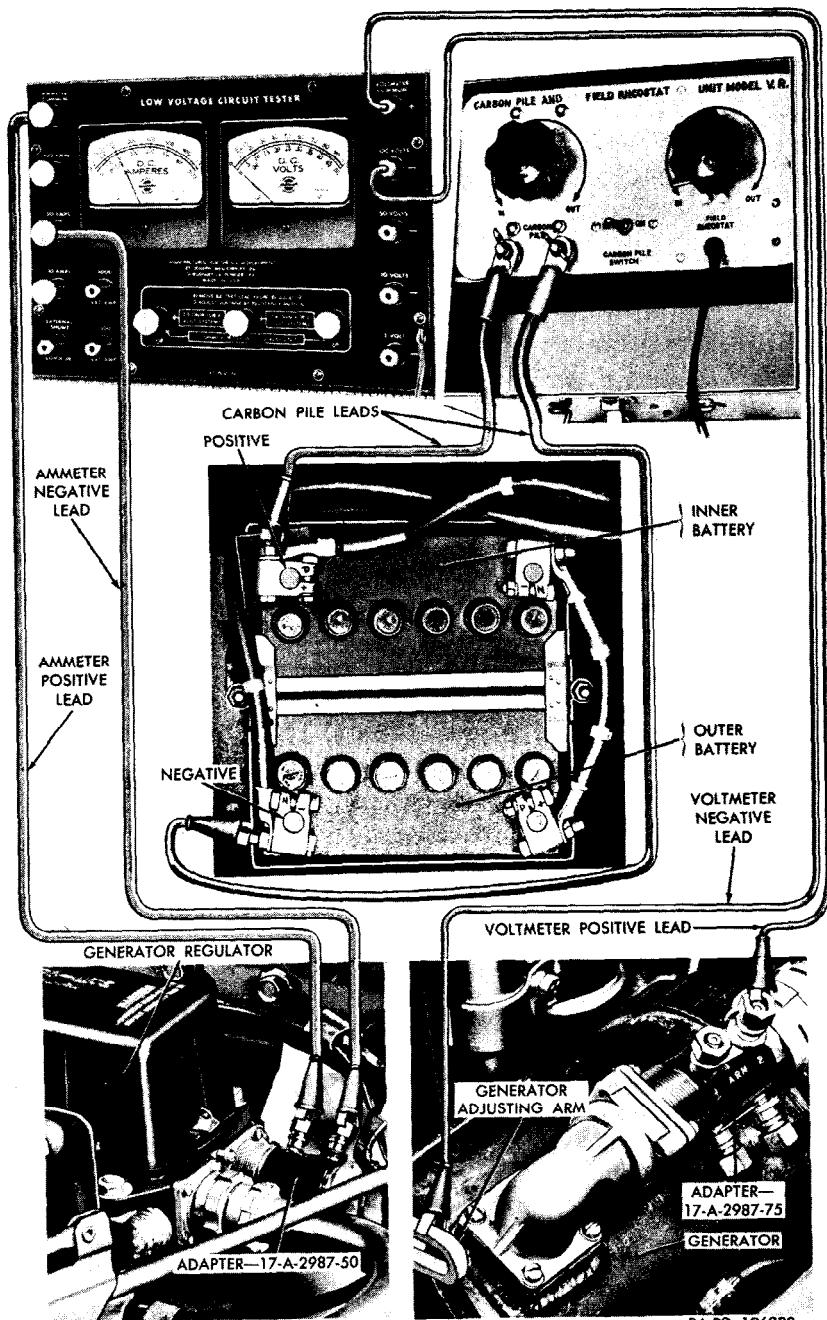

Figure 50. Checking maximum charge.
- (7) *Source of trouble.* If voltage reading is low or no reading is shown on voltmeter, the generator is probably at fault. Replace the generator (par. 164). If the voltage reading is 30 volts or more, the generator is functioning properly, and a faulty generator regulator is probably the cause of the "no charge" condition. Replace the generator regulator (par. 165).
- (8) *Remove testing equipment and connect generator-to-regulator cable.* Remove testing equipment. Connect generator-to-regulator cable to receptacle on generator and tighten nut with a spanner wrench.
f. Check Maximum Charge (fig. 50). Checking the maximum charge is to determine whether the current regulator of the generator regulator is functioning properly.
- (1) *Disconnect battery-to-ground cable.* Disconnect the battery-to-ground cable from the negative (-) post of the outer battery to prevent an accidental ground while connecting test leads.